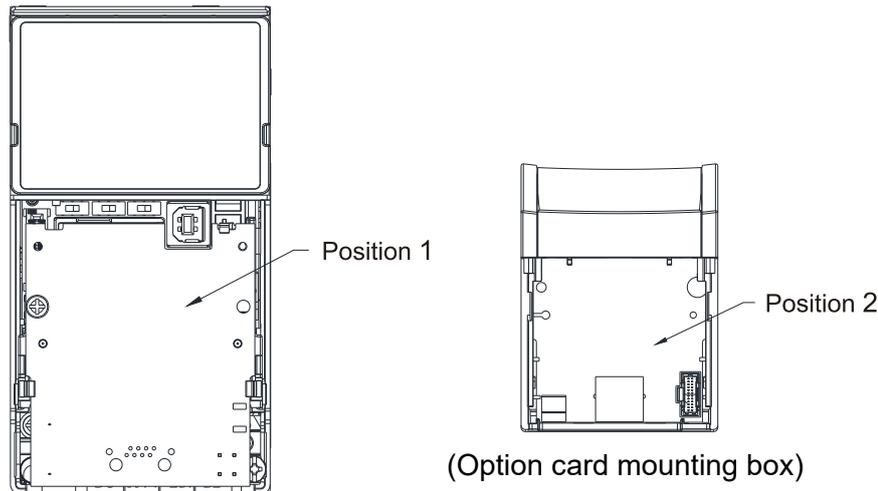

Figure 8-1
4. Assembling connection cables: Connect the connector at the other end of the connection cable to the connector of option cards, and make sure the core place in the groove, as shown in the Figure 8-1